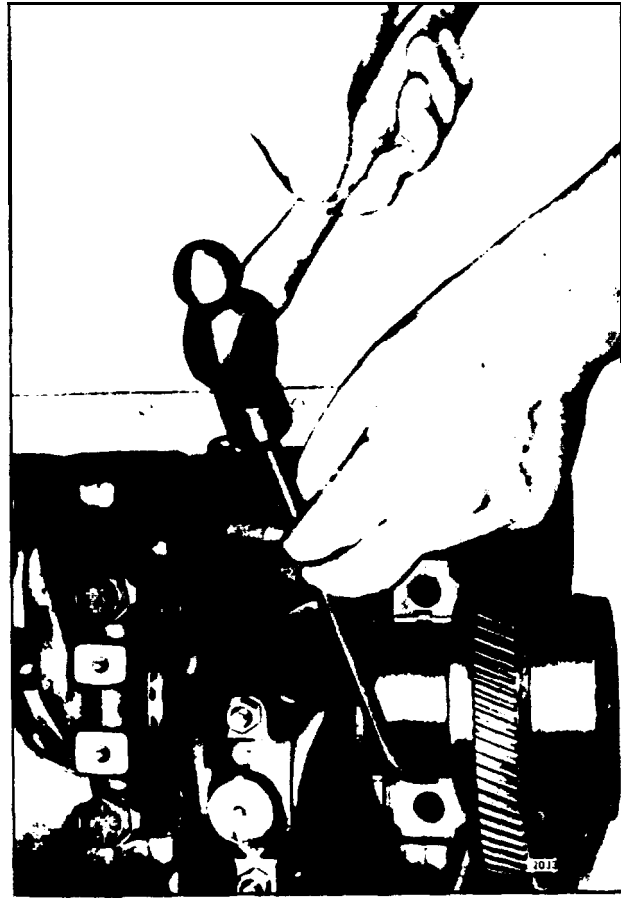

Fig. 5 Removing Upper Rear Main Bearing Shell
- b. Remove the rear main bearing upper shell by tapping on the edge of the bearing with a small curved rod, revolving the crankshaft at the same time to roll the bearing shell out as shown in Fig. 5.